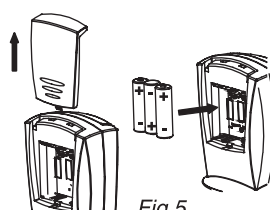

Fig 5
Remove battery compartment cover and insert three (AA) alkaline batteries as shown in Fig 5. Refit the battery compartment cover.